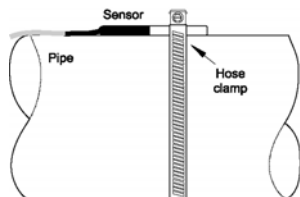

Figure 5. Installing the TE 704 A Sensor
3. Position the sensor flat against the pipe and fasten with a hose clamp (not provided). See Figure 5.